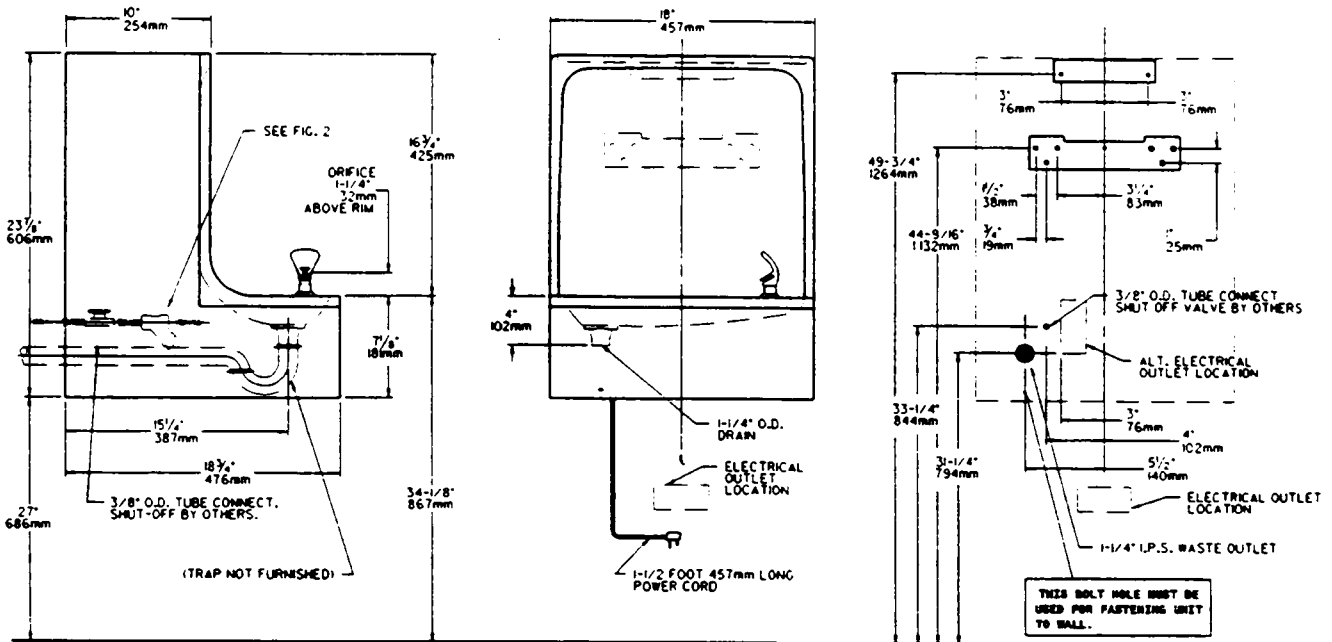

FIG. 1
2. Mount the hanger brackets and trap as shown in Figure 1. **NOTE:** Hanger brackets **MUST** be supported securely. Add fixture support carrier if wall will not provide adequate support.